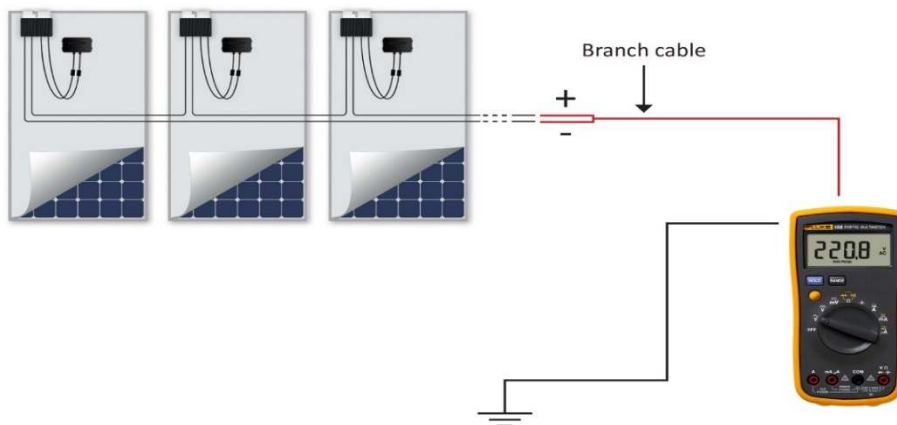

Figure 2: Connecting the insulation tester to the PV string
- 4** Test the *string resistance* using the insulation tester (see Figure 2):